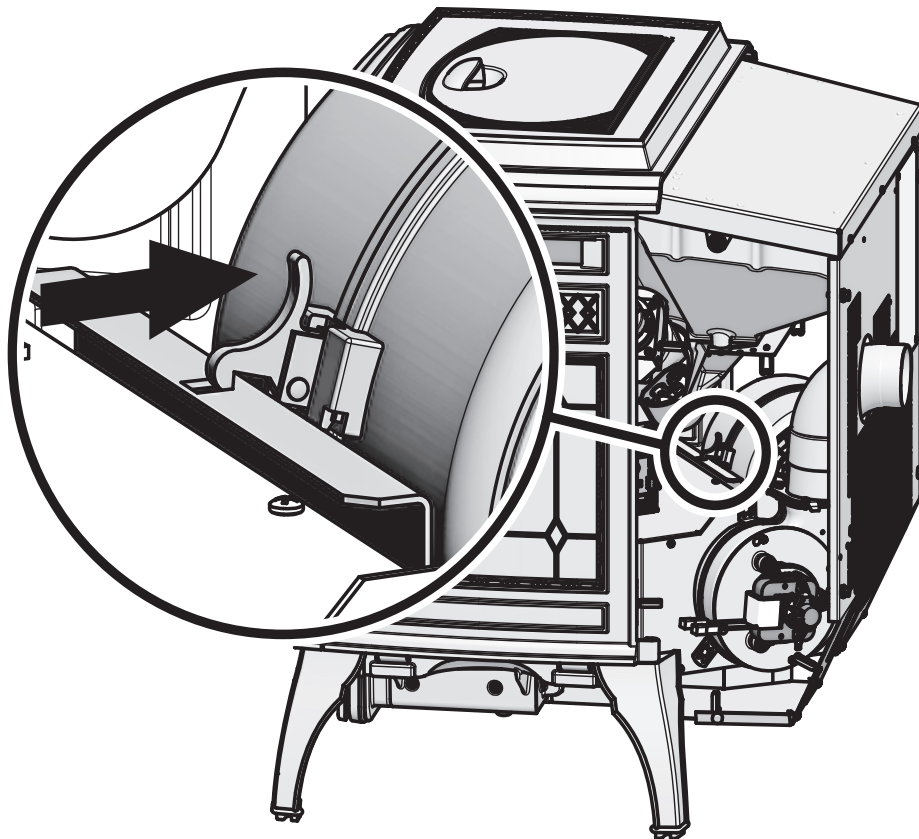

Figure 22.1
2. Remove the left side panel by loosening the 2 screws using a Phillips head screw driver or wrench. **Figure 22.1**
5. Reach behind the blower and release the latch by pushing the top of the latch towards the blower. **Figure 22.1**
8. When the blower is properly positioned the latch will engage the notch to hold the blower in place. **Figure 22.1**